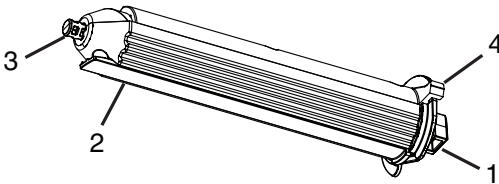

Figure 19, Ribbon Take-up Spindle
To replace the ribbon take-up spindle, position the square end (**Figure 19, 1**) of the spindle in the square notch on the right side of the printer, push the spindle slightly to the right and slide the other end of the spindle into the notch on the left side of the printer.
5. Slide the end of the ribbon under the ribbon hold-down tab (**Figure 19, 2**) so that about 2 inches (50.8 mm) protrude past the tab.
NOTE: To remove ribbon from the ribbon take-up spindle, press and hold the thumb lever (**Figure 19, 4**) to compress the spindle and slide the ribbon off the spindle.